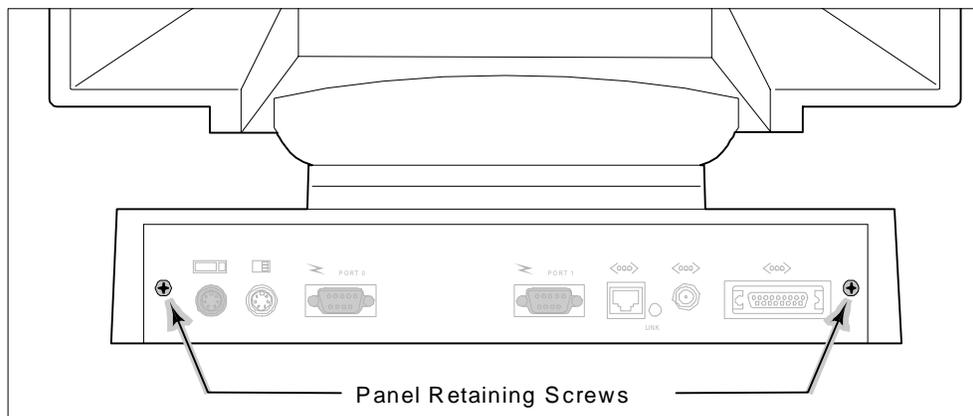

Figure 6. Integrated Cabinet Rear Panel Retaining Screws
3. Remove the two retaining screws from the Netstation rear panel (see Figure 6).